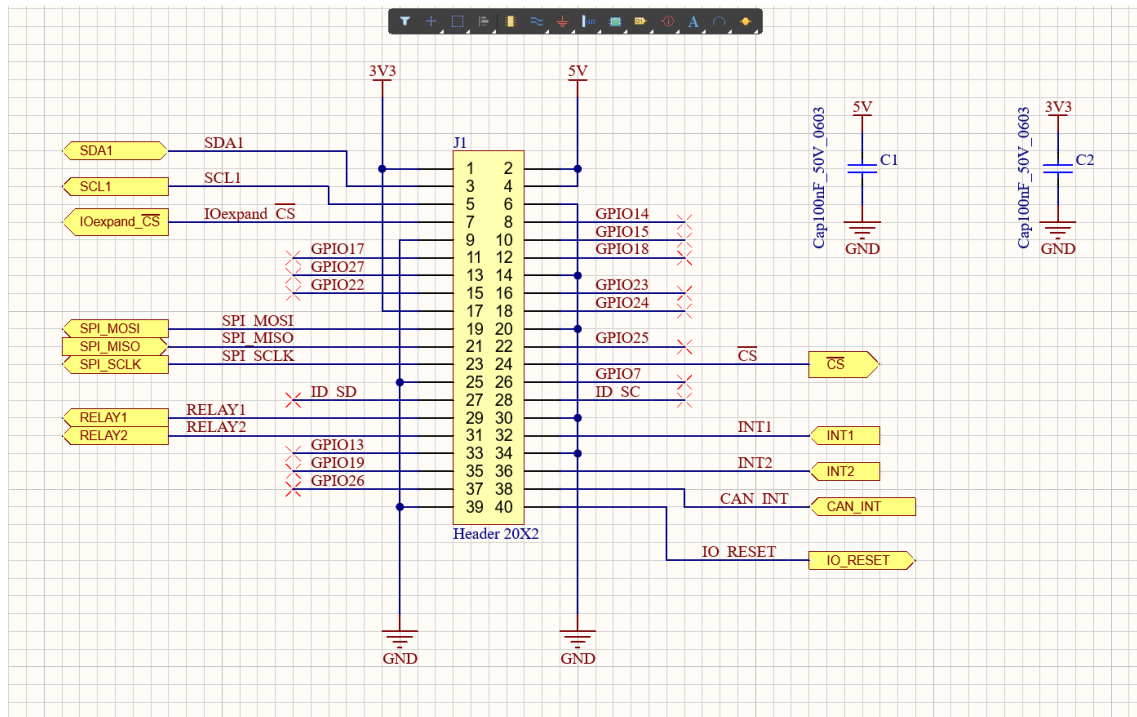

Figure 17. Completed Schematic wiring for Processor_Interface
12. In the next steps, using *Figure 17* as reference, we will describe how to place **Net Labels** and **Signal Ports**.